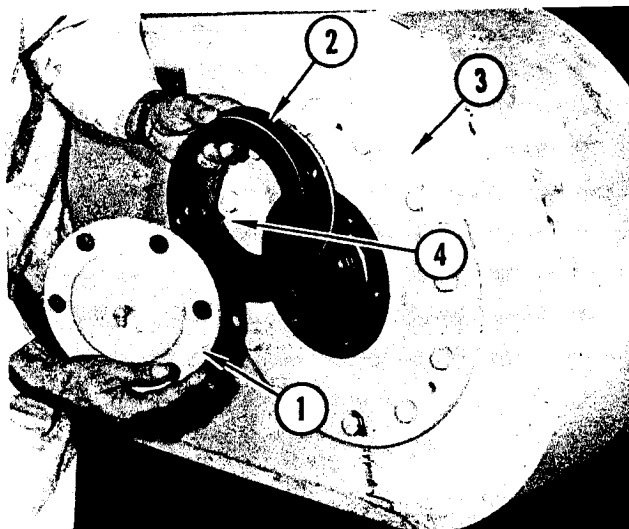

FIGURE 111. INNER ECCENTRIC HOUSING
Refer to Figure 111. Remove six cap-screws and lockwashers retaining hub cap (1) to inner eccentric housing (3). Remove hub cap and shims (2). Remove twelve cap-screws and lockwashers retaining inner axle carrier to tandem housing and remove inner eccentric housing and gasket. Remove bearing cup from eccentric housing.
notch in flange, Figure 111, is toward center of tandem housing.